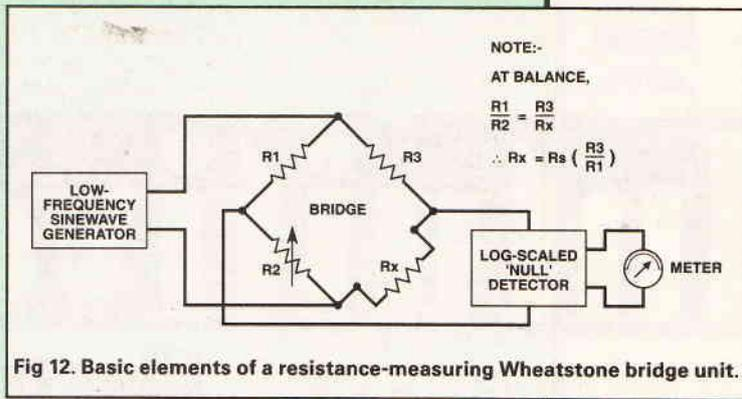

Fig 12. Basic elements of a resistance-measuring Wheatstone bridge unit.
L-C-R BRIDGES. These combine a passive 'bridge' network and an energising generator and a balance indicator, to form a stand-alone test set that can be used to measure values of inductance (L), capacitance (C), and resistance (R). Figure 12 shows the basic elements of a resistance-measuring 'Wheatstone' bridge unit; the actual bridge (R_1 - R_2 - R_3 - R_x) is energised by a low-frequency (typically 50 to 1000Hz) oscillator, and the bridge's output signal is monitored via a null-indicating logarithmically-scaled meter.